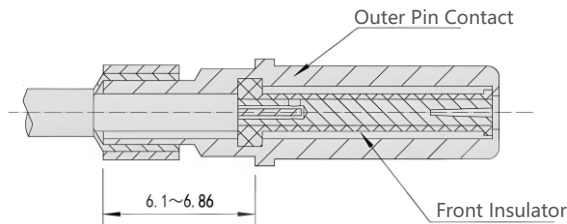

Figure 2.4
- ⑤Use the crimping tool MH992 and locator K1303 to crimp the internal socket contact.
⑥As shown in Attached Figure 2.4, install the internal assembly into the outer pin contact, down to the cable shielding mesh, until the internal socket contact is fully installed.